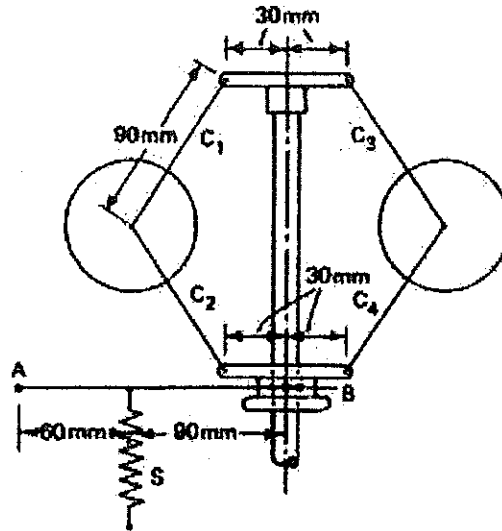

Fig.Q5
- (b) Fig.Q5 shows a Porter governor for which the speed range can be varied by means of the auxiliary spring S. The spring force is transmitted to the sleeve by the arm AB, which is pivoted at A. The two balls each of mass 0.36 kg are supported by four links, C₁, C₂, C₃ and C₄, each 75 mm in length. The sleeve carries a mass of 0.9kg.